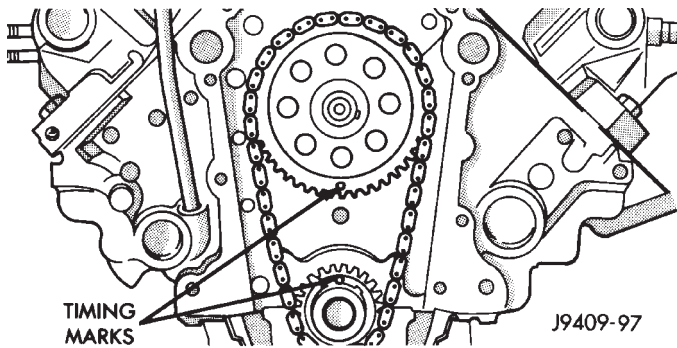

Fig. 27 Alignment of Timing Marks
(1) Place both camshaft sprocket and crankshaft sprocket on the bench with timing marks on exact imaginary center line through both camshaft and crankshaft bores.
(2) Place timing chain around both sprockets.
(3) Turn crankshaft and camshaft to line up with keyway location in crankshaft sprocket and in camshaft sprocket.
(4) Lift sprockets and chain (keep sprockets tight against the chain in position as described).
(5) Slide both sprockets evenly over their respective shafts and use a straightedge to check alignment of timing marks (Fig. 27).
(6) Install the camshaft bolt. Tighten the bolt to 68 N·m (50 ft. lbs.) torque.